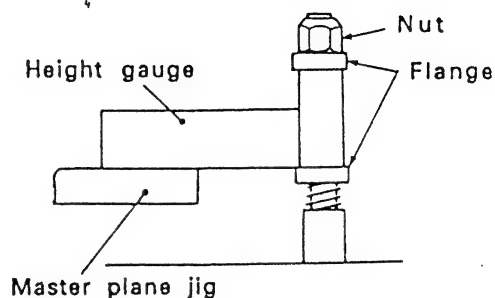

Fig.6 Guide pole height adjustment
- b) Set the height gauge on the master plane jig as shown in Fig.6.